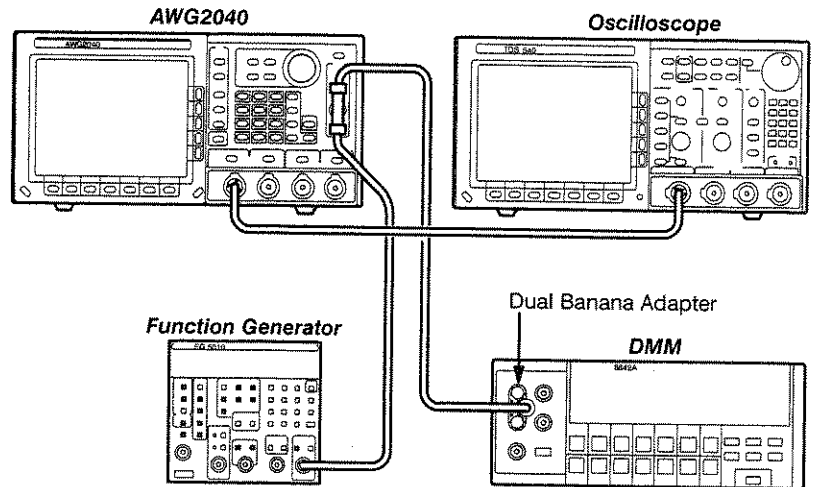

Figure E-19: Trigger Input Initial Test Hookup
- c. *Hook up function generator:* Connect the adapter (BNC T male to 2 female) on TRIGGER INPUT through a coaxial cable to the function generator output (see Figure E-19).